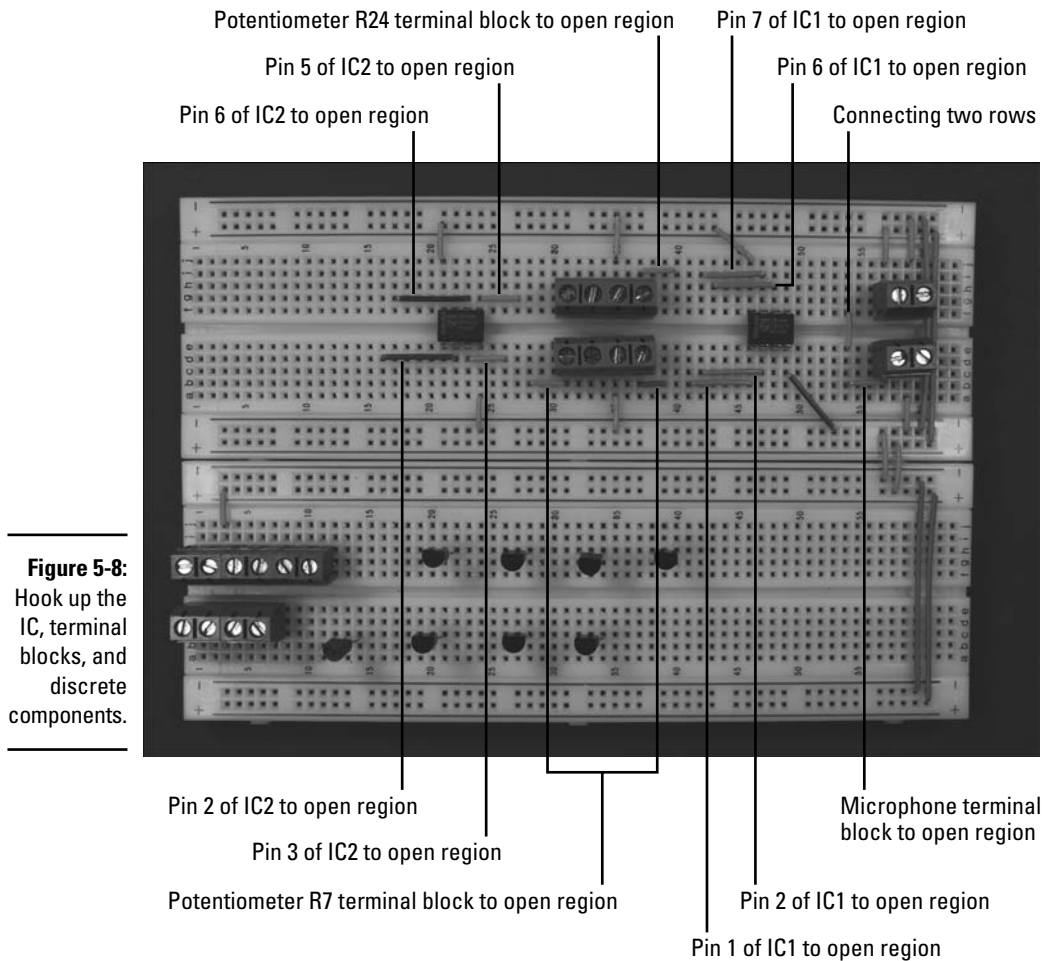

Figure 5-8:
5. Insert wires to connect the ICs, terminal blocks, and discrete components, as shown in Figure 5-8.